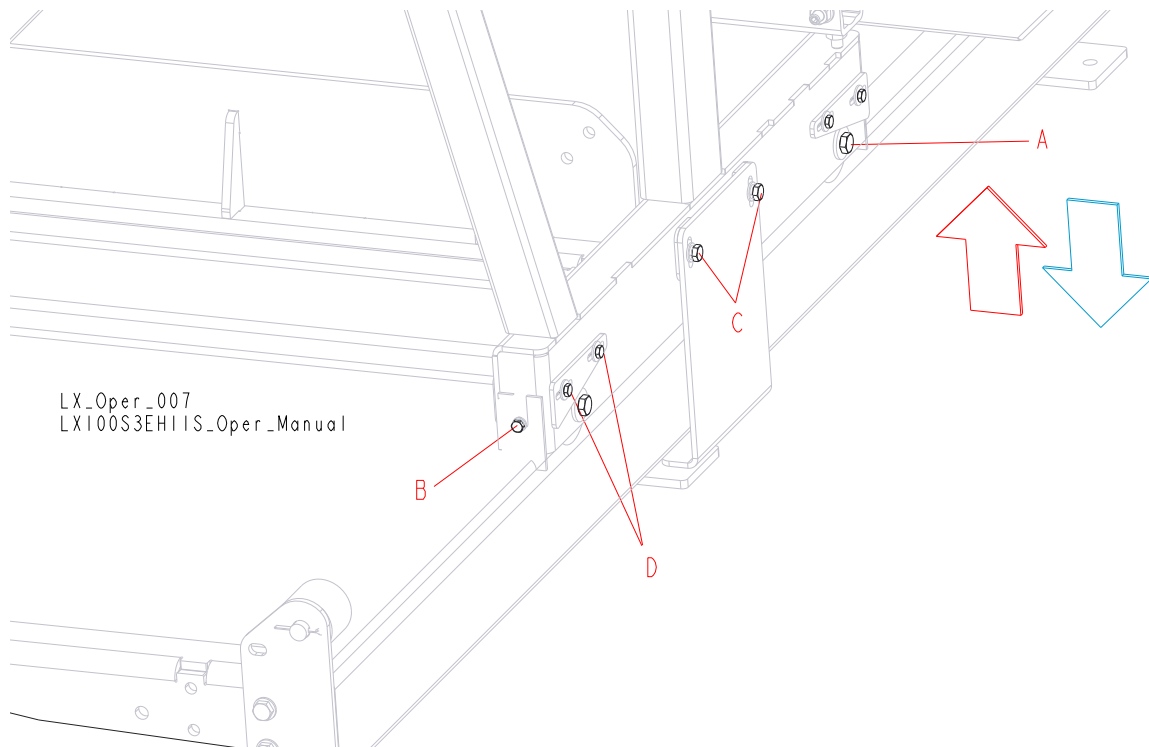

FIG. 3-2
See Figure 3-2. When the blade is parallel to bed, it will measure the same distance from the bed rail at the inside and outside of the saw head. If not, adjust the saw head tilt. First, loosen two roller bolts (A), two scraper bolts (B) and two mast retaining bracket bolts (C). To adjust the saw head tilt, use